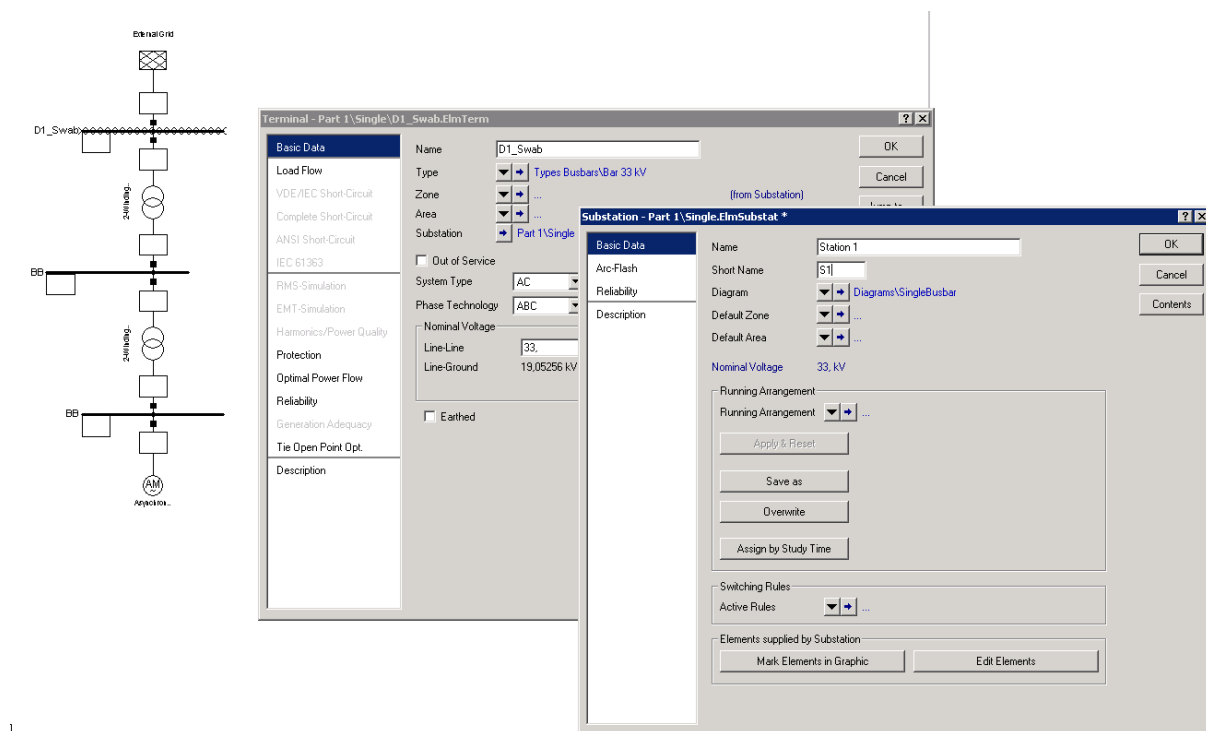

Figure D.2.3: Setting the nominal voltage of a substation
- The dialogue window of the substations appears (Figure D.2.3). Change the name of the substation to "Station 1".